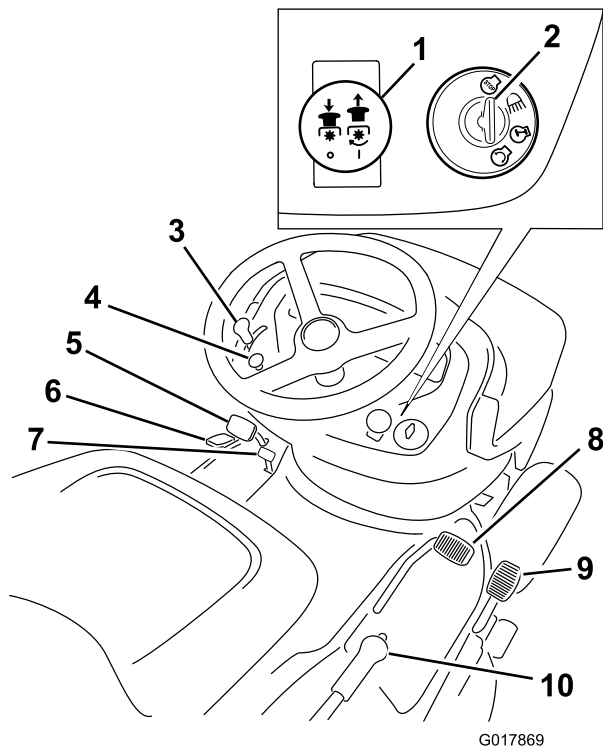

Figure 4
Become familiar with the controls (Figure 4) before you start the engine and operate the machine.
1. Push the brake pedal (Figure 4) down and hold it.
1. Push down on the brake pedal (Figure 4).
The hour meter is located on the instrument panel (Figure 4) and shows the total operating hours of the machine.
2. Pull the blade control (PTO) knob out to the Engaged position (Figure 4).
2. Push the blade control (PTO) knob into the Disengaged position (Figure 4).
4. Disengage the blades (PTO); refer to Figure 4.